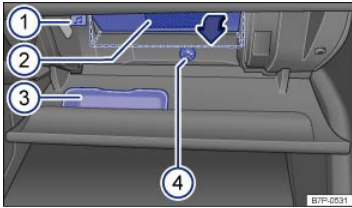

Fig. 121 Inside the glove compartment.
The factory-installed **DVD drive**, may be located in the glove compartment ⇒ *Fig. 121*②.
**Key to ⇒ Fig. 121 :**
- ① Release for fold-down compartment.
- ② Compartment storage net for Owner's Manual ⇒ Fig. 121② or within the fold-down compartment there may be a MEDIA-IN multimedia jack or a DVD drive (HDD, SD) ⇒ *BookletRadio or Navigation System*,
- ③ Eyeglass compartment.
- ④ Vent.
The Owner's Manual ⇒ Fig. 121② is located in the storage net and should be kept there.
Inside the glove compartment, there is an eyeglass compartment ⇒ Fig. 121③.
The fold-down compartment has either a MEDIA-IN multimedia jack ⇒ *BookletRadio or Navigation System*, or a DVD drive with media center (HDD), and slots for SD cards ⇒ Fig. 121②. Pull down the release ⇒ Fig. 121① to open the fold-down compartment.
There is an air vent  $\Rightarrow$  Fig. 121④ in the back of the glove compartment. Cool air can be directed into the glove compartment if the air conditioner is on. Open or close the air vent by turning it.
Keep the compartment with the DVD drive  $\Rightarrow$  Fig. 121② closed while driving; otherwise, vibration may damage the DVD drive.